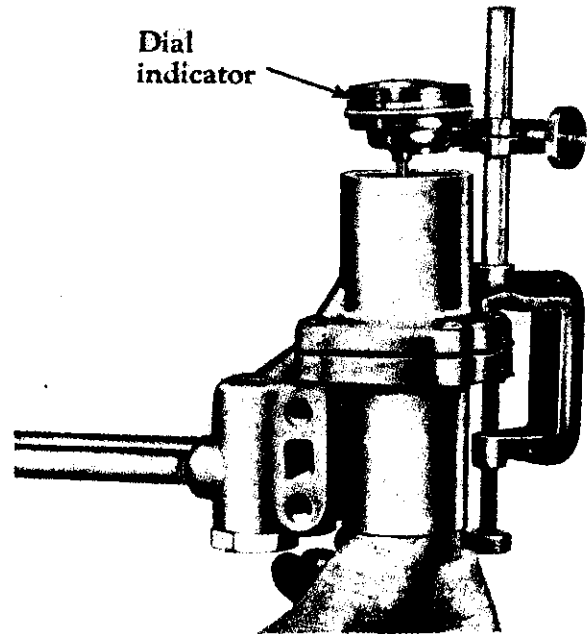

FIG 3 - CHECKING VALVE TRAVEL (GOVERNOR)
d. Measure total valve travel (fig 3) by pulling diaphragm assembly stem out as far as possible and setting dial indicator at zero when contacting exhaust valve stem. Push diaphragm stem completely in and read total valve travel. Total valve travel should be 0.060 inch to 0.098 inch.